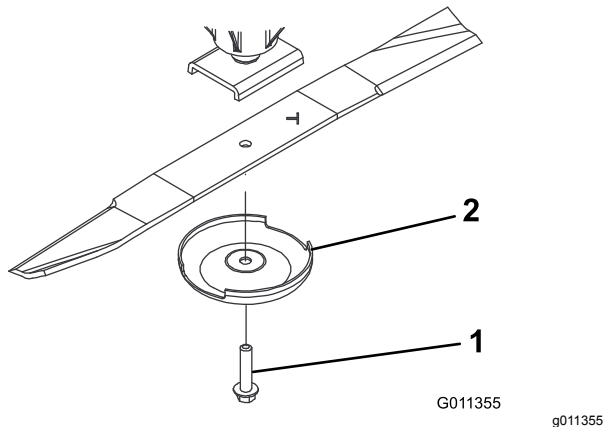

Figure 95
2. Grasp the end of the blade using a rag or thickly padded glove. Remove the blade bolt, anti-scalp cup, and blade from the spindle shaft (Figure 95).
3. Install the blade, sail facing toward the cutting deck, with the anti-scalp cup and blade bolt (Figure 95). Tighten the blade bolt to 115 to 149 N·m (85 to 110 ft-lb).
If the blade is allowed to wear, a slot will form between the sail and flat part of the blade (Figure 95). Eventually a piece of the blade may break off and be thrown from under the housing, possibly resulting in serious injury to yourself or bystanders.